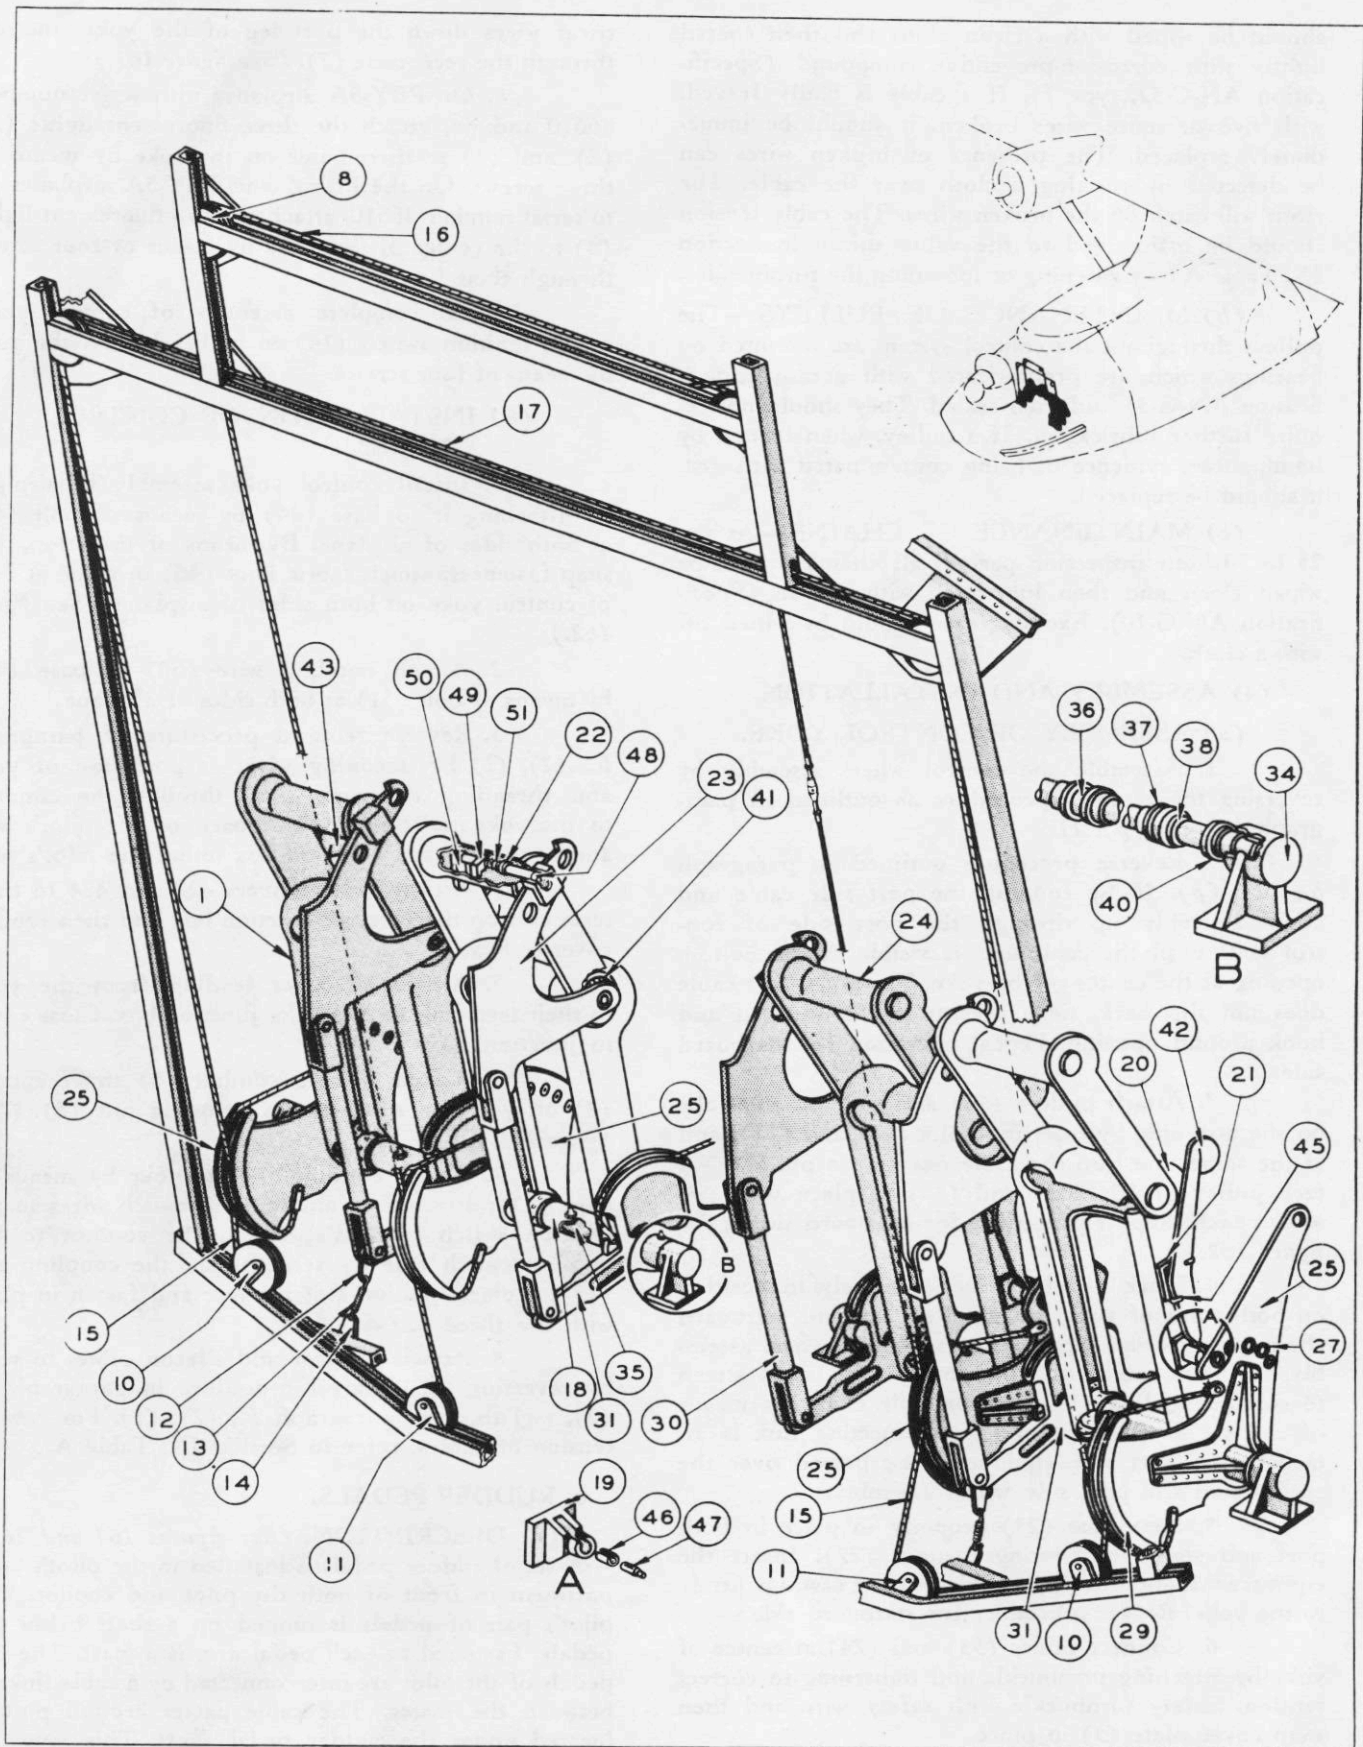

Figure 164—Rudder Pedals (PBY-5A Only)
(1) DESCRIPTION. (See figures 164 and 165.)—A set of rudder pedals is installed in the pilot's compartment in front of both the pilot and copilot. The pilot's pair of pedals is hinged on a shaft below the pedals. Fastened to each pedal arm is a mast. The two pedals of the pilot are interconnected by a cable linkage between the masts. The cable passes around pulleys located under the rudder pedal shaft. This same arrangement is installed on the copilot's side. In addition, by means of cables passing over pulleys located in struc-
(See figure 164.)